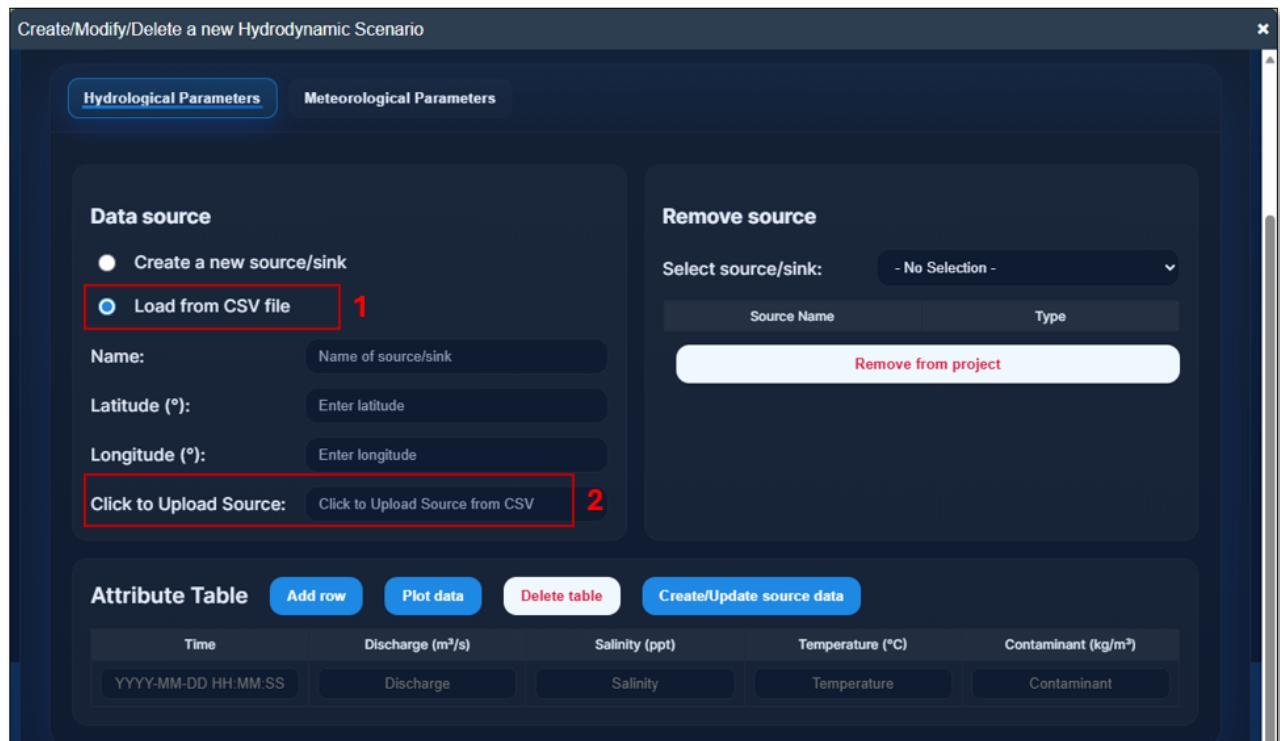

Figure 2.23. Set up the hydrological parameters from a CSV file
- *Upload data source from a CSV file:* The following steps show how to upload a data source from a CSV file (**Figure 2.23**):